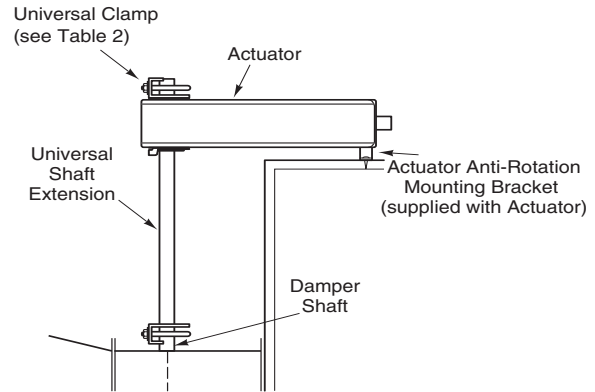

Figure-1 Installation of AM-676 Universal Shaft Extension.
- Assemble the damper actuator onto the universal shaft extension, allowing the extension to slide through the actuator's universal clamp assembly. Fit the actuator mounting bracket onto the actuator and position the actuator and bracket on the mounting surface. See Figure-1.